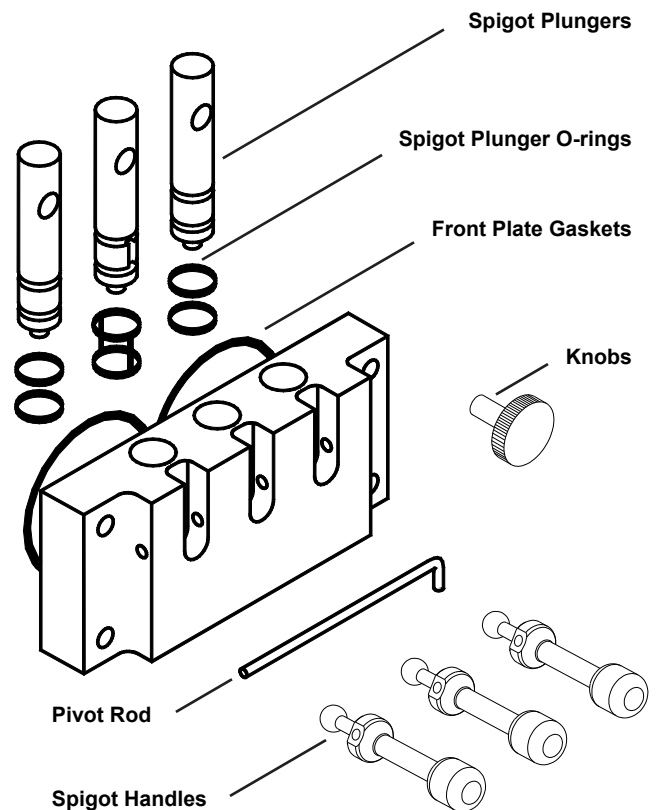

Fig. 20
- Slide the lubricated spigot plungers into the front plate (Fig. 20) making certain that the spigot handle slots are aligned to the front of the front plate. The spigot plunger with the double o-ring must be installed in the center cylinder of the front plate.